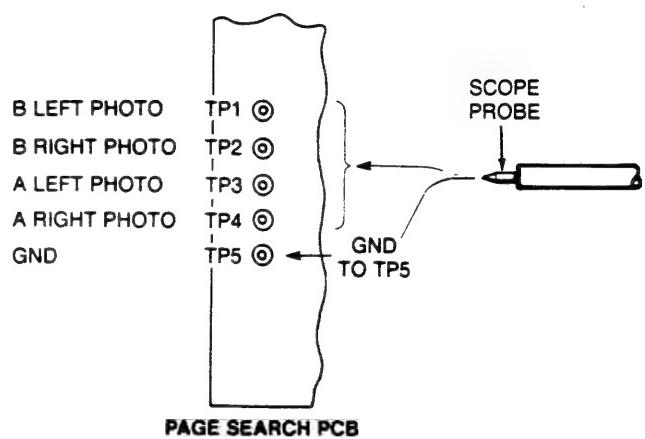

Figure 3-5B
- Connect the Channel 1 Scope Probe to TP1 (B LEFT PHOTO) and TP5 (GND) on the M-656 Page Search PWB (Figure 3-5B).